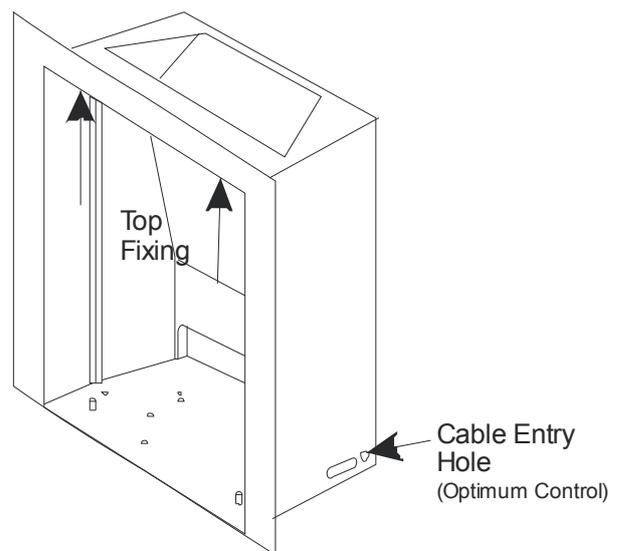

Figure 59
4. If fitting **Optimum Control Model** carefully drill a 20mm hole in the ceramic back on the right hand bottom corresponding to the round hole in the thermobox side (see **Figure 59**). Feed the cable end with battery connection into the hole and allow approximately 500mm of cable inside the box. Route and fit the cable and wall switch.
6. Adjust the top two clamping screws to secure the top of the box into the fireplace opening (see **Figure 59**).